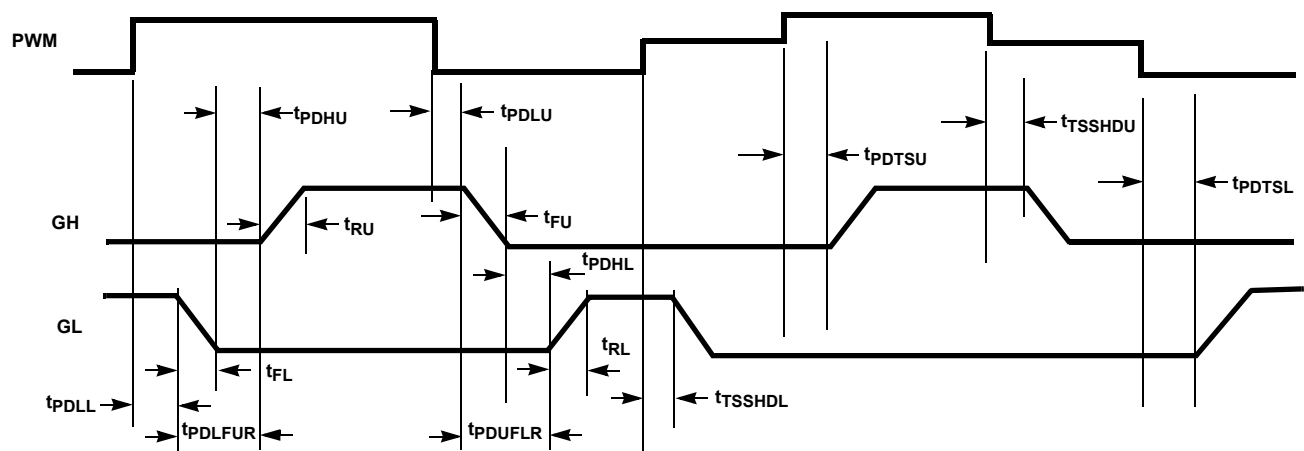

FIGURE 5. TIMING DIAGRAM (INTERNAL SIGNALS)
3.3V PWM INPUT FOR ISL99227 (See “TIMING DIAGRAM” Figure 5 on page 9)
5V PWM INPUT FOR ISL99227B (See "TIMING DIAGRAM" on Figure 5 on page 9)